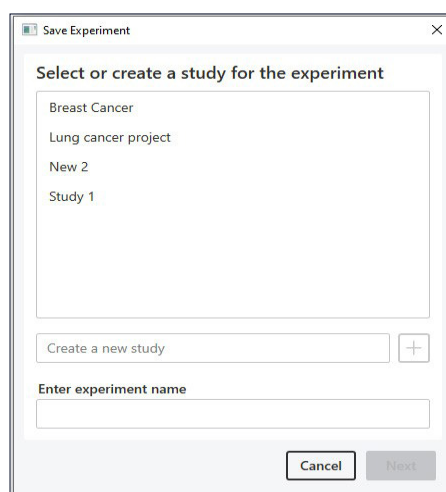

FIGURE 4.4. Save Experiment screen.
1. Select the New button on the main screen. (See Figure 4.3.) The Save Experiment screen displays. (See Figure 4.4.)